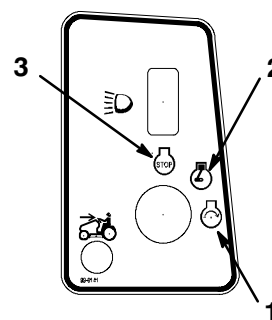

Figure 9
5. Turn the ignition key clockwise and hold it in the Start position (Fig. 9). When the engine starts, release the key.
2. Turn the ignition key to Off and remove the key (Fig. 9).